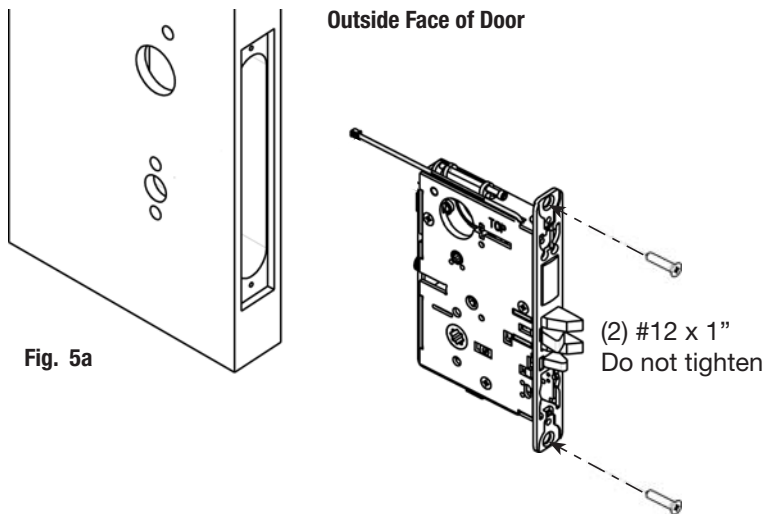

Fig. 5a
- Feed wires through 1-5/16" diameter hole on INSIDE of door while installing lock body (Fig. 5a).
- Install, but do not tighten two #12 x 1" combination screws through lock body (Fig. 5a).